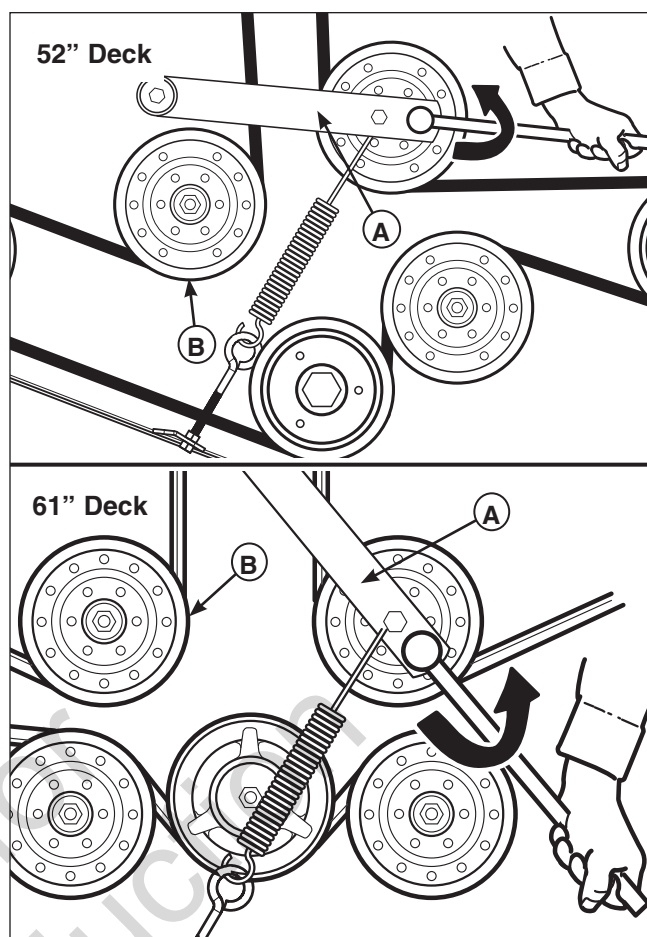
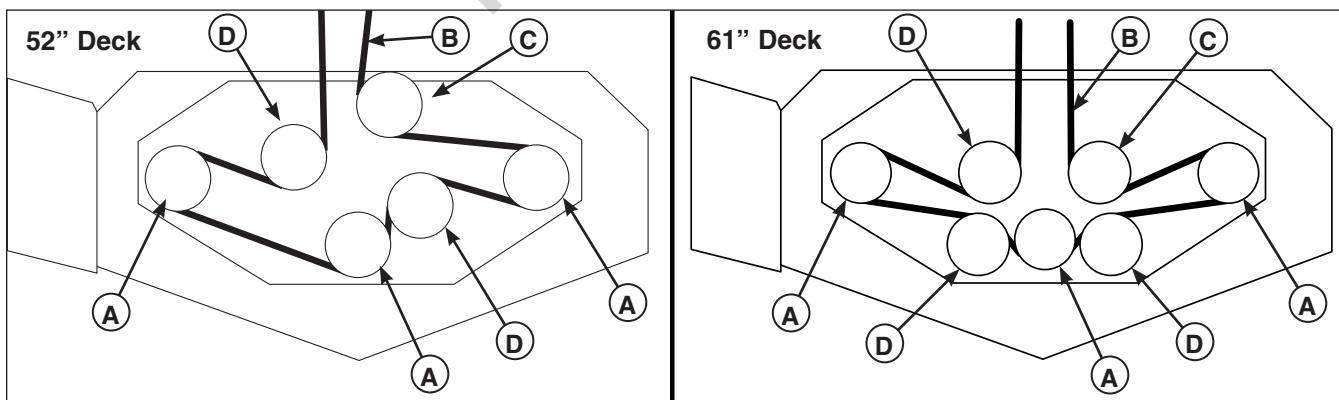

Figure 62. Mower PTO Belt
Figure 63. Mower PTO Belt Routing
2. Using a 1/2" breaker bar, place the square end in the square hole located in the end of the idler arm (A, Figure 62). Carefully rotate the breaker bar counter-clockwise, which will relieve the tension on the belt exerted from the idler arm.
3. Slide the drive belt over the edge of the stationary idler pulley (B). Carefully release the tension on the breaker bar until the idler arm stops against the center spindle pulley.
4. Remove the old belt and replace with a new one. Make sure the V-side of the belt runs in the pulley grooves (Figure 63).
5. Install the drive belt on the PTO pulley, the spindle pulleys and all idler pulleys except the stationary pulley (B, Figure 63). Carefully rotate the breaker bar counter-clockwise and install the belt on the stationary idler pulley (B). Carefully release the tension on the breaker bar.